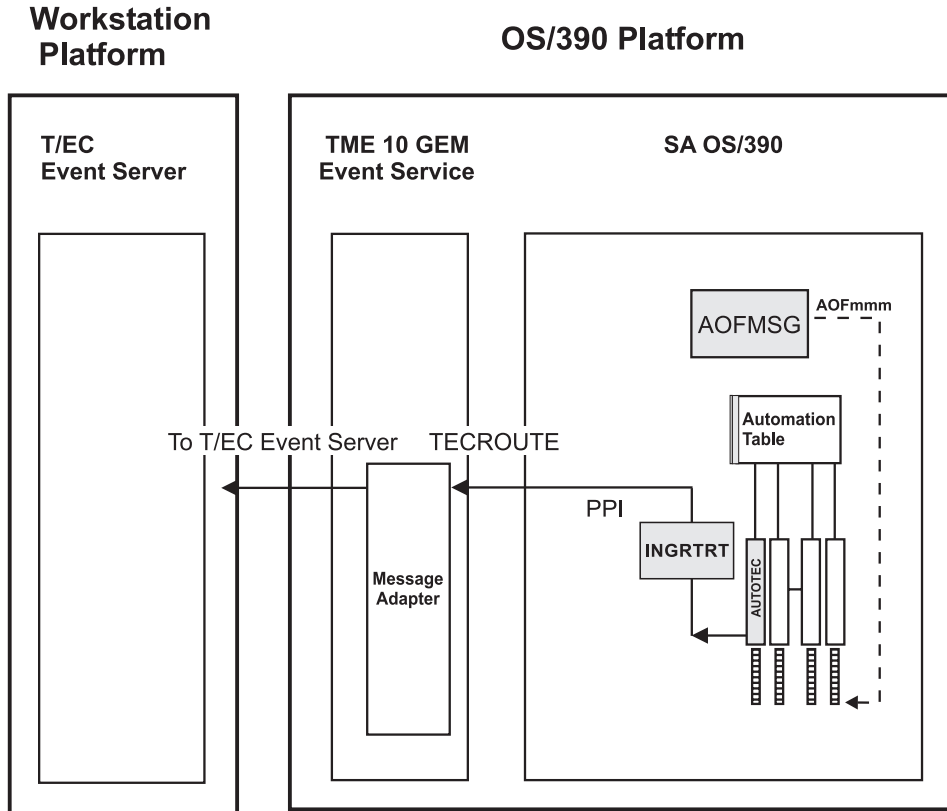

Figure 7. Local Configuration: Tivoli GEM Event/Automation Service local to the SA OS/390 Source of Messages
- **local configuration:** The message adapter or alert adapter is running on the same OS/390 system on which SA OS/390 is also running. The adapters are local to the SA OS/390 which is issuing and forwarding messages and alerts to the Tivoli Enterprise Console. Such a configuration for message forwarding is illustrated in Figure 7 on page 38.